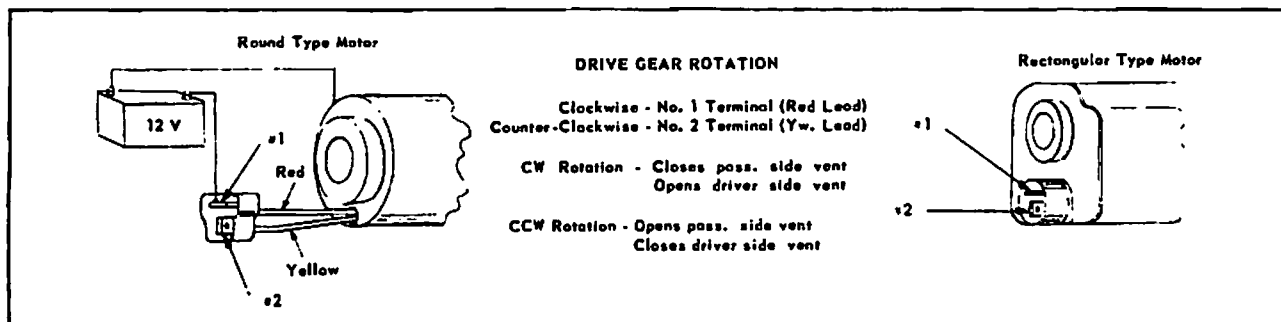

Figure 3-17
- (B) Refer to Figure 3-17 below. Connect an ammeter between (+) side of power source and lead to terminal indicated for desired rotation. Then connect ground (-) side of power to motor housing.
- (C) Check performance against values given in performance table for both clockwise and counter clockwise rotations.